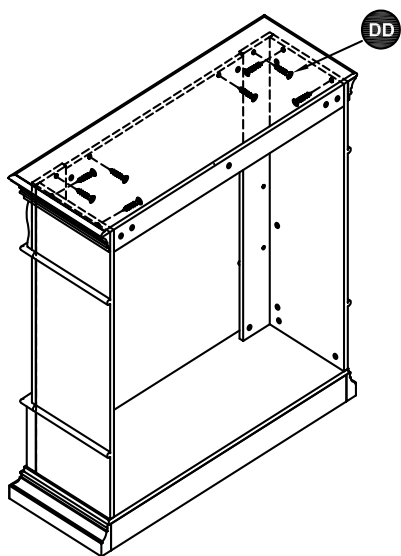

Figure 6
6. Flip the previously assembled frame over and secure it by tightening the Screws (DD), as shown in Figure 6.